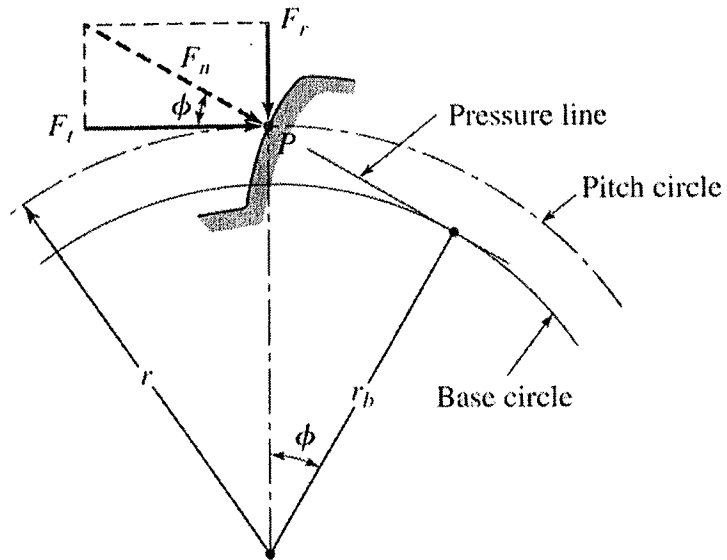

Fig 04
b. With a pair of gears or gear sets, power is transmitted by the force developed between contacting teeth. Derive equations for torque and the transmitted power at the point P using Fig. 04, where F_t = transmitted force, F_n = normal force, F_r = resultant force, Φ = pressure angle. (10 mark)